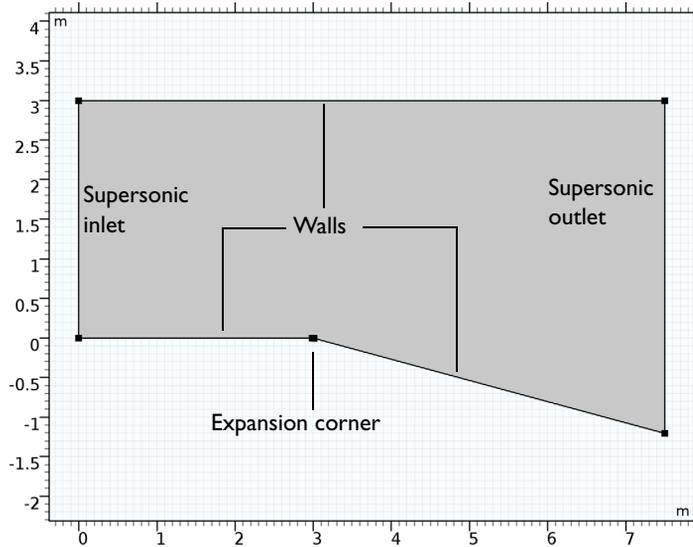

Figure 2: Model geometry.
The problem is governed by the inviscid compressible flow equations which are modeled by The High Mach Number Flow, Laminar interface in the CFD module in COMSOL Multiphysics. The geometry of the model is depicted in Figure 2.
- 6 Click the **Zoom Extents** button on the **Graphics** toolbar (see Figure 2)